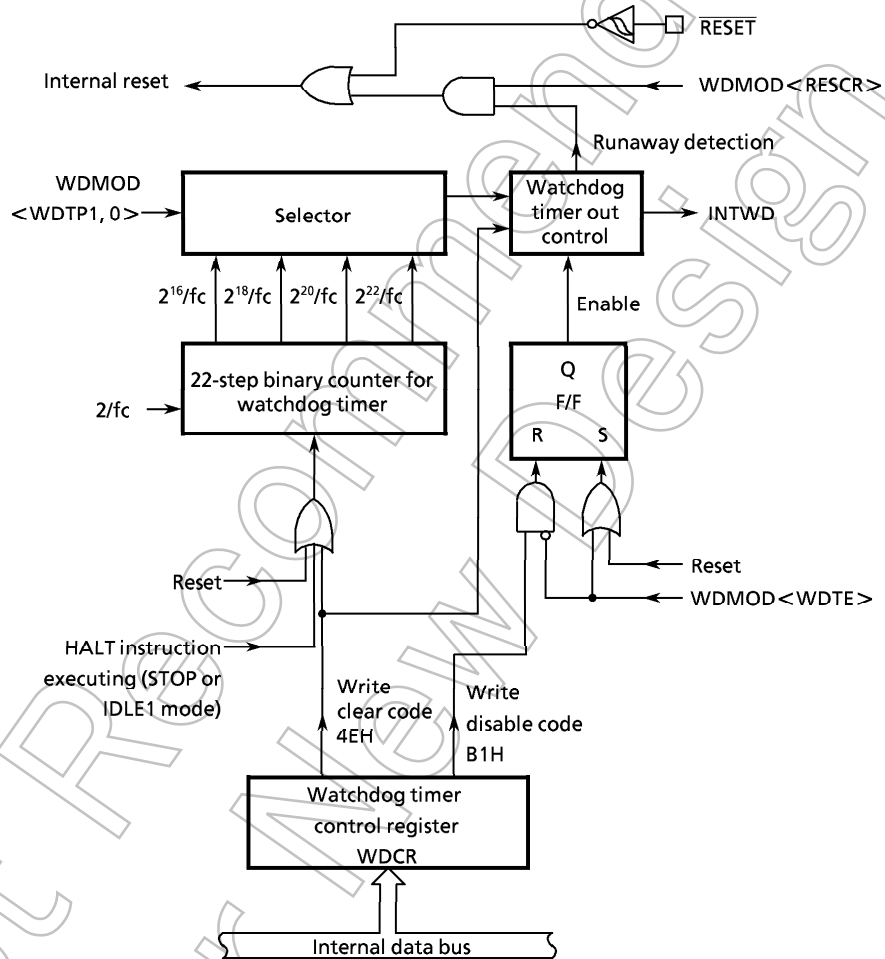

Figure 3.12 (1) Watchdog Timer Block Diagram
TMP95CS64/265 incorporates a watchdog timer for detecting a runaway (out-of-control) condition. The watchdog timer (WDT) returns the CPU to its normal state when it detects the start of a CPU runaway due to, for example, noise. When the watchdog timer detects a runaway, it generates an INTWDT (non-maskable) interrupt to notify the CPU of the condition. In addition, the runaway detection result can be used for a forcible reset of the microcontroller itself. The watchdog timer consists of a 22-step binary counter with $2/f_c$ as the input clock, and a control block. Figure 3.12 (1) is a block diagram of the watchdog timer (WDT).